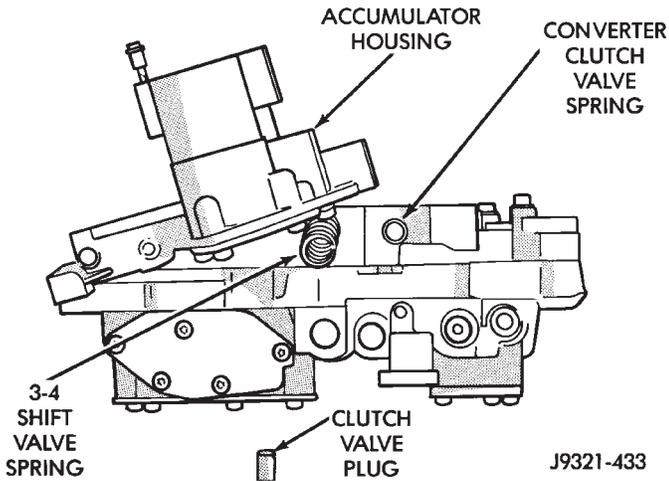

Fig. 80 3-4 Shift And Converter Clutch Valve Springs And Plug
(24) Carefully rotate 3-4 accumulator housing upward and remove 3-4 shift valve spring and converter clutch valve plug and spring (Fig. 80).